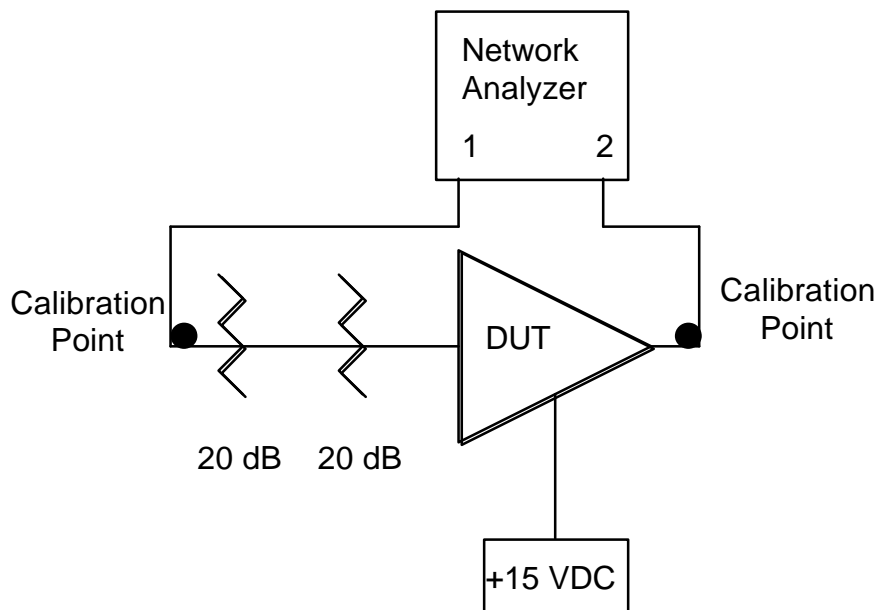

Figure 1
7. Hook up the amplifier as in figure 1 below with the two 20 dB pads on the INPUT.